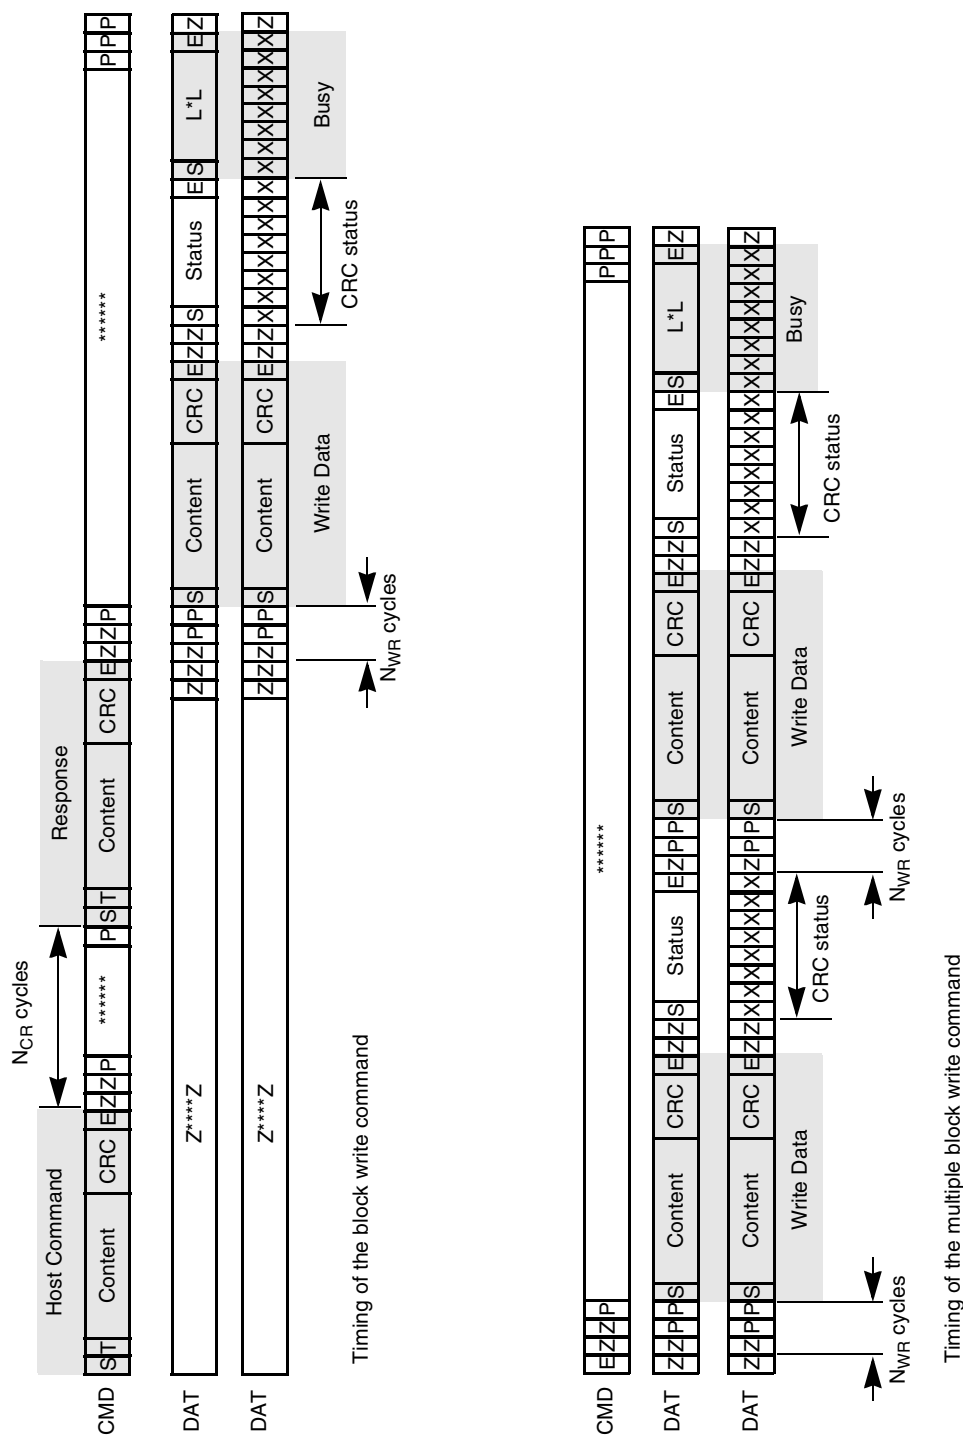

Figure 21. Timing Diagrams at Data Write
Figure 21 shows the basic write operation timing. As with the read operation, after the card response, the data transfer starts after N_{WR} cycles. The data is suffixed with CRC check bits to allow the card to check for transmission errors. The card sends back the CRC check result as a CC status token on the data line. If there was a transmission error, the card sends a negative CRC status (101); otherwise, a positive CRC status (010) is returned. The card expects a continuous flow of data blocks if it is configured to multiple block mode, with the flow terminated by a stop transmission command.